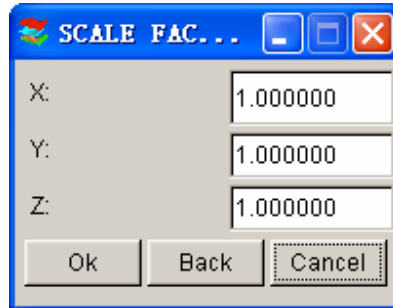

Figure 5.1.7 Scale Factor
- Enter the desired scale factors in the fields in the SCALE FACTOR dialog window. See Figure 5.1.7.